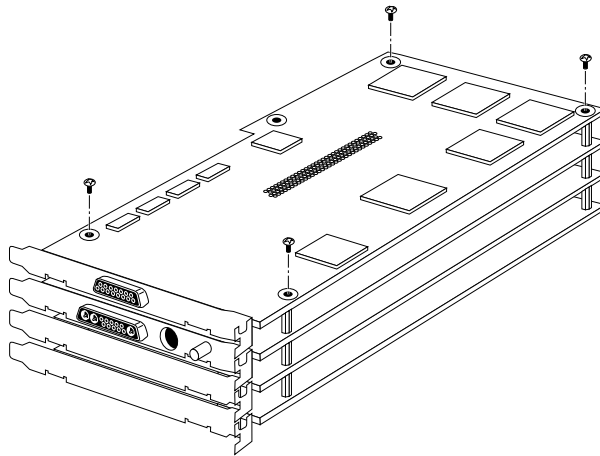

Figure 3-9 Aligning the option board
3. Align the Galileo Video or Indigo² Video board over the graphics board set, as shown in Figure 3-9.